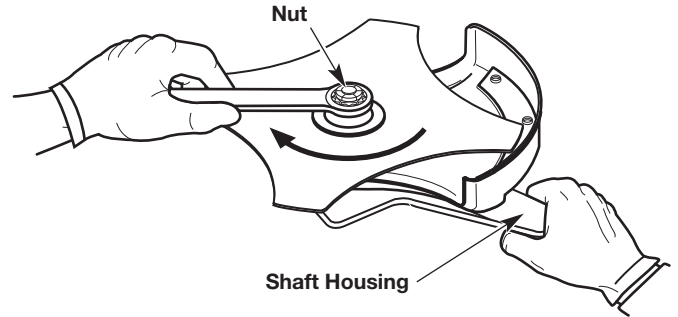

Fig. 10
3. Hold the locking rod in place by grasping the other end against the shaft housing (Fig. 10).
4. While holding the locking rod in place, unscrew the nut by turning it clockwise with a wrench (Fig. 10).